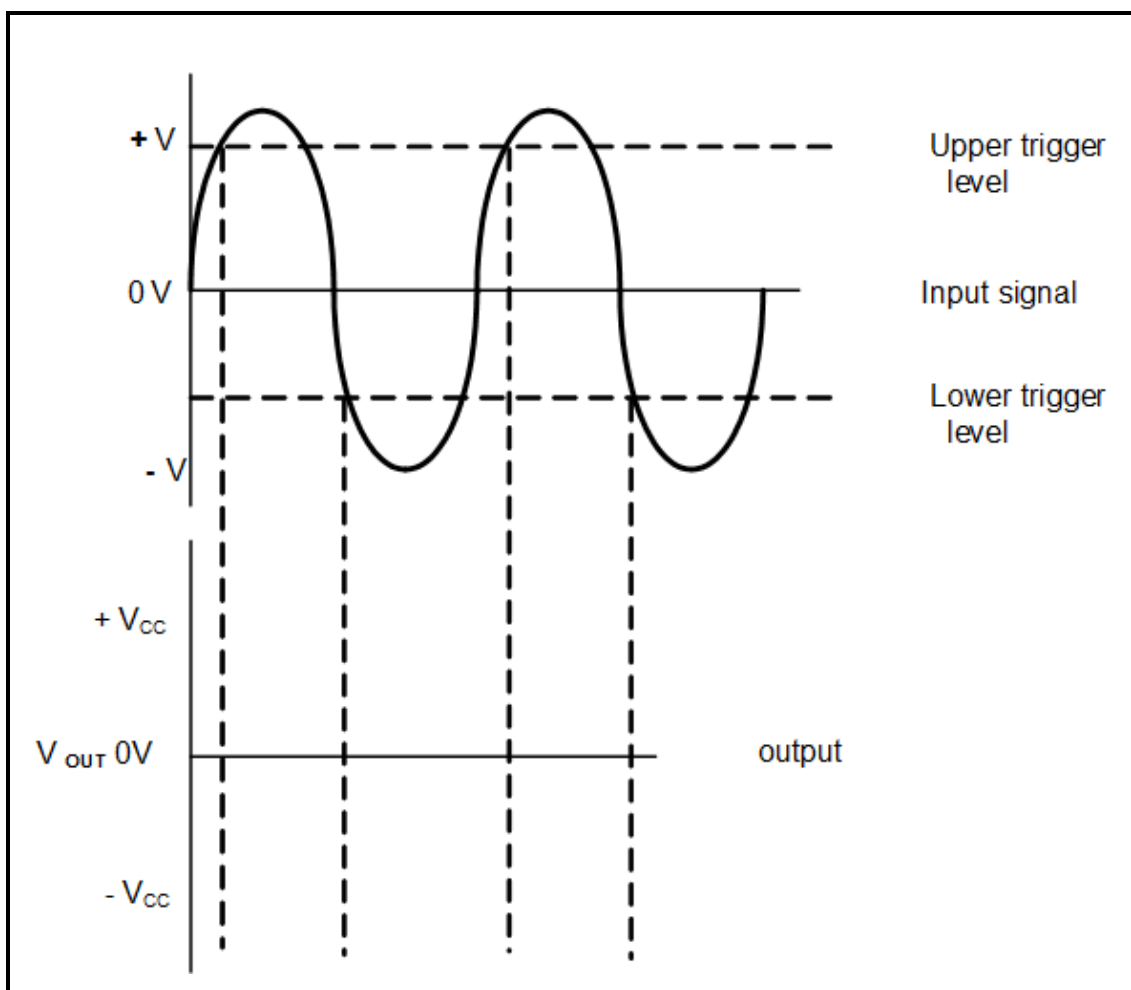

FIGURE 7.10: INPUT SIGNAL TO A SCHMITT TRIGGER OP AMP
7.10 FIGURE 7.10 below shows the input signal to a Schmitt trigger op amp. Draw the input signal and directly below that, on the same y-axis, draw the output signal when the Schmitt trigger is connected in the inverting configuration.